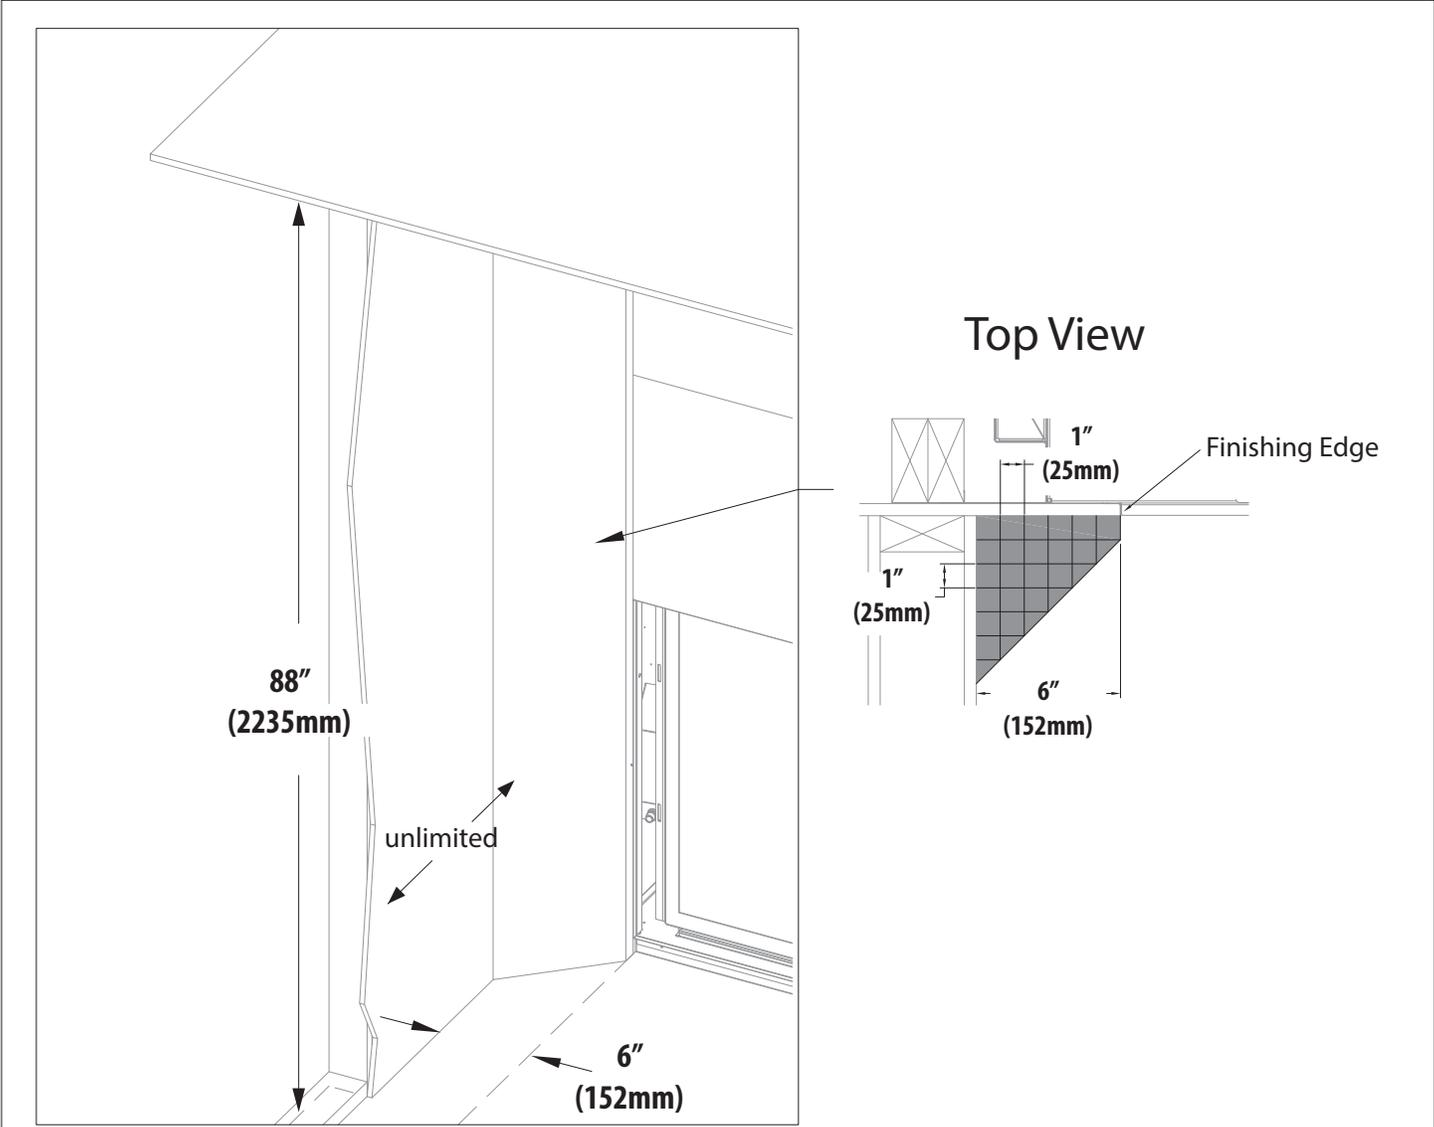

Figure 4.8, Vented Cavity and KZK Adjacent Sidewall Clearances
- **Mantel Leg:** Follow side combustible clearance below. See Figure 4.8 on page 38.
- **Side Combustible clearance:** 1" (25mm) combustible side trim can be flush with the side finishing edge. After 6" (152mm), this projection is unlimited. See Figure 4.8 on page 38.
- The adjacent sidewall minimum clearance is 6" (152mm) from the side finishing edges of the fireplace. See Figure 4.8 on page 38.